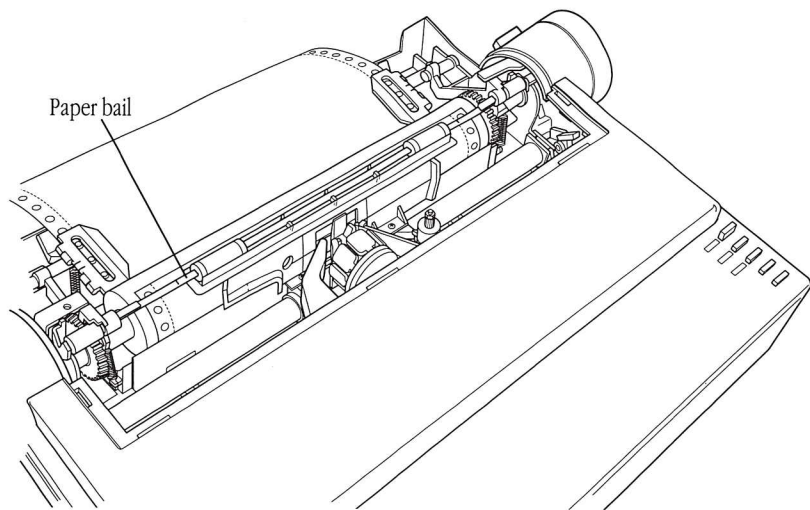

Figure 2-17 Paper loaded under the paper bail
13. To load the paper into the printer, turn the platen knob clockwise until the leading edge of the paper is between the platen and the paper bail. (See Figure 2-17.)